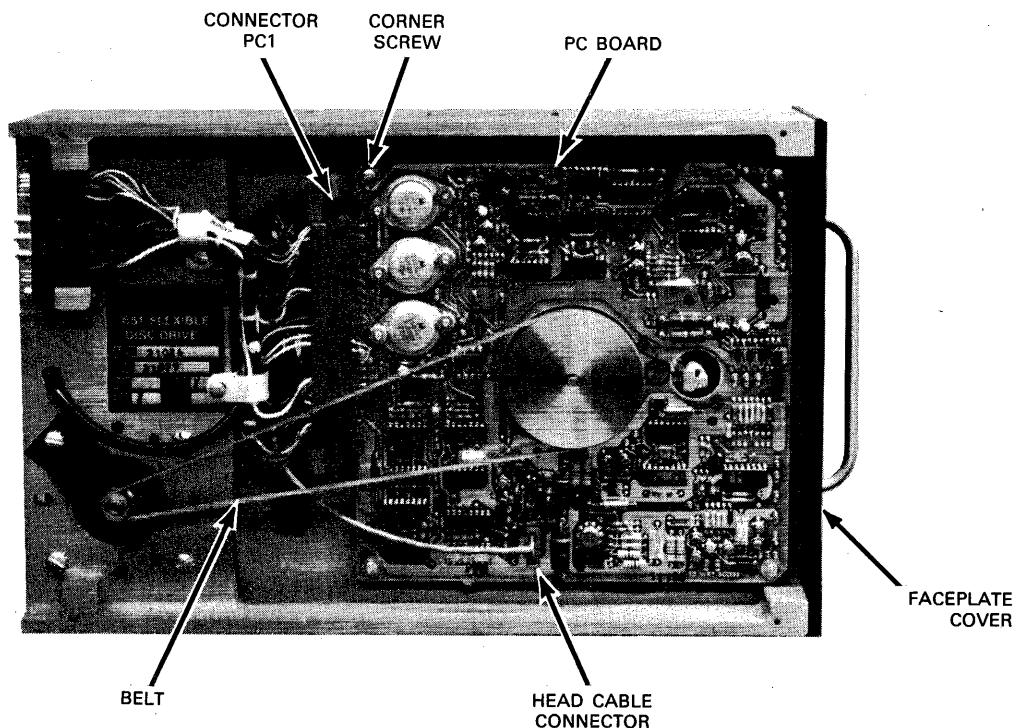

Figure 5-1. Chassis and PC Board Removal and Replacement
1. Remove two screws from left side faceplate cover, and remove faceplate cover (Figure 5-1).
1. Remove belt from pulleys (Figure 5-1).
1. Connect connector PC1 to PCB (Figure 5-1).